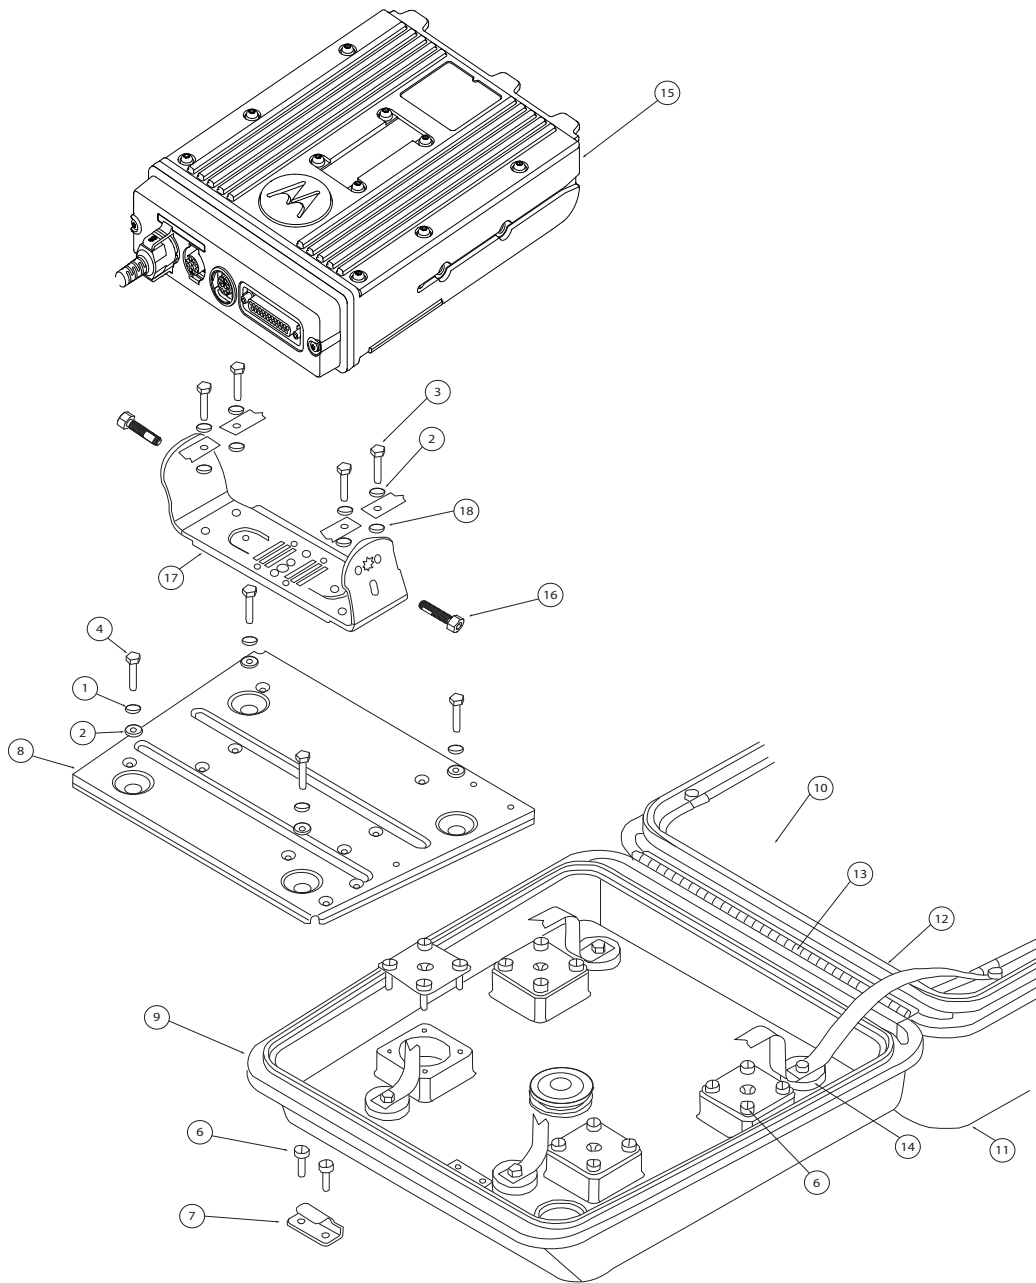

Figure 5-17. Installing the Transceiver
2. The weather-resistant enclosure is mounted to the universal mounting plate using shock mounts. Assemble the shock-mount components exactly as shown in Figure 5-15. Be sure to install ground straps between the shock-mount and the transceiver trunnion mount, and install one 7-1/2-inch ground strap between the right rear mount and the enclosure lid's antenna ground plane 0 (shown in Figure 5-15 and in Figure 5-17).
6. Figure 5-17 is an exploded view of the enclosure; it shows details that will help to understand how the enclosure is mounted. After the enclosure is completely mounted, check for proper ground connection—continuity between the antenna ground plane and the motorcycle frame.
Install the transceiver in the weather-resistant enclosure as follows (see Figure 5-17).
1. Install the mounting trunnion and loose ends of the four ground straps to the radio-mounting plate, using four screws, flat washers, and external-tooth lock washers (see Figure 5-17). The ground straps must be sandwiched between the flat washers and lock washers. The lock washer must be against the trunnion. The flat washer must be under the screw head.